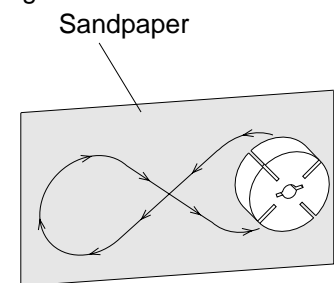

Figure 22 - Sanding Rotor
14. Place fine grade sandpaper (600 grit) on flat surface. Sand rotor lightly in "figure 8" motion four times (see Figure 22).